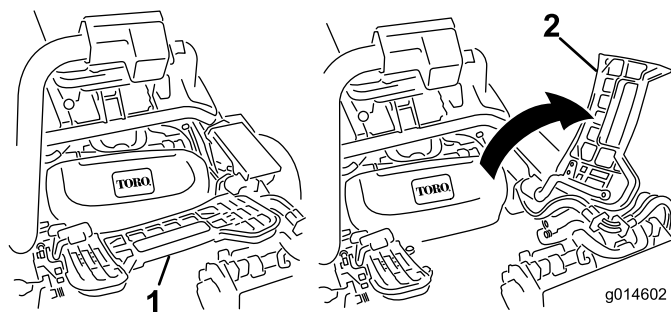

Figure 32
2. Lift up on the foot rest and swing it open, allowing access to the center cutting unit position (Figure 32).